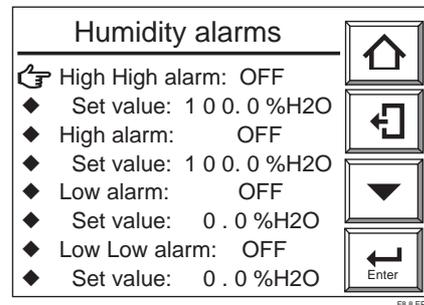

Figure 8.8 Humidity Alarms Display
- (8) Select Setpoints in the Alarms setup display to display the Humidity alarms as shown in Figure 8.8.
- (9) When you select “High alarm” in the display, the “off” or “on” selection display then appears. If you select “on,” the High alarm will then be enabled(enable/disable).
- (10) To set the High alarm values, select the “Set value” just below the High alarm. The numeric-data entry display then appears. Enter the alarm set value (in % H₂O). If you want to set the alarm value to 10% H₂O, enter “0100.”
- (11) Set the other alarm settings in the same manner as in the steps above.